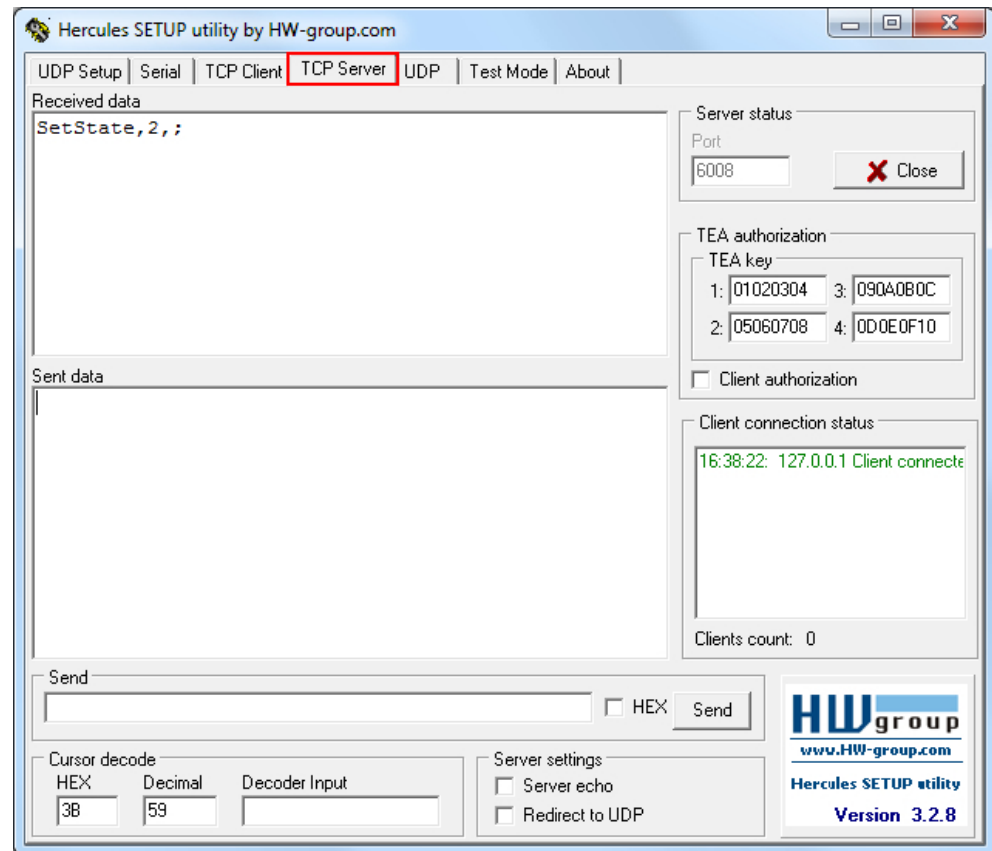

Figure 91: Testing system-to-robot communication
3. Open the **TCP-Server** tab (see figure 91, page 103).